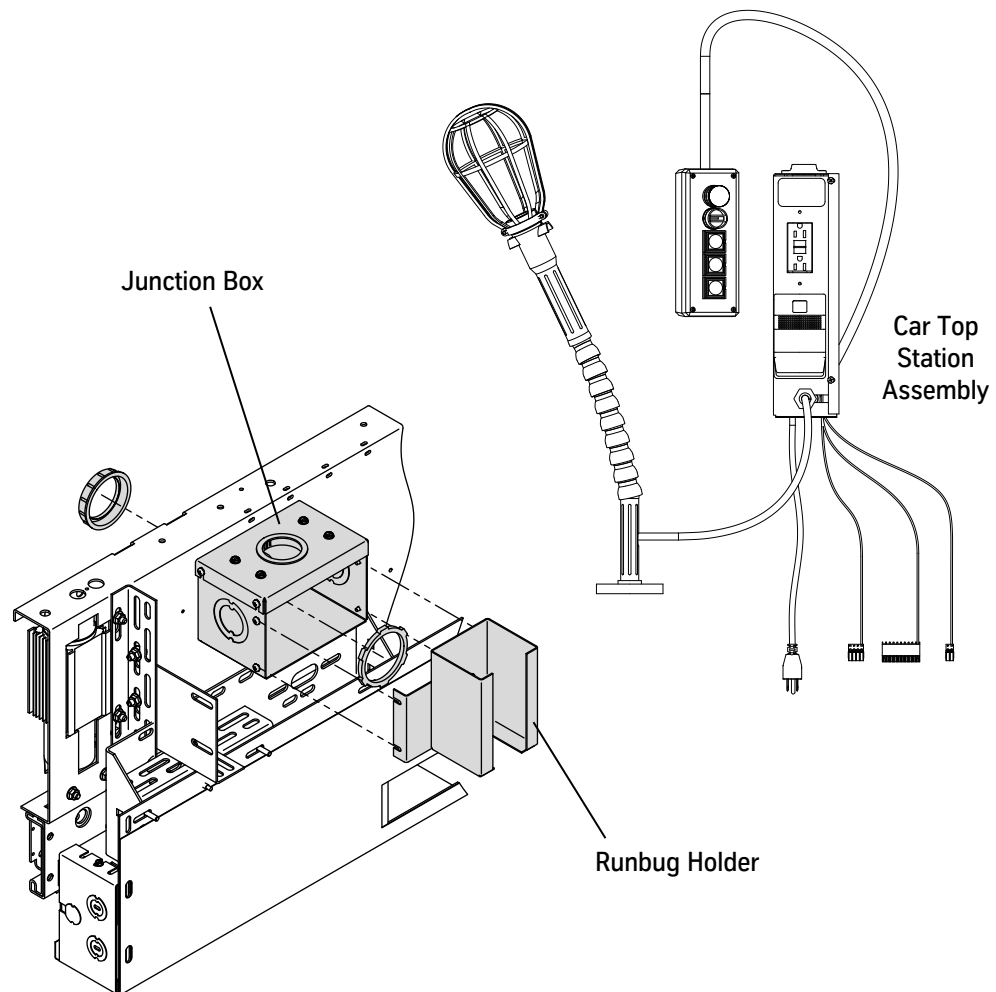

Figure 8 - Car Top Station Installation
16. Install the junction box to the door operator. See Figure 8.
19. Install the CTS to the top of the junction box. See Figure 8.